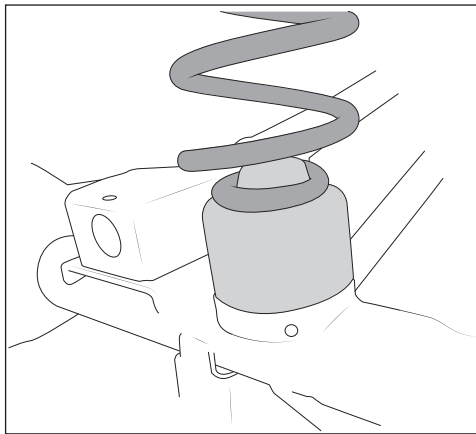

Figure 23
3. Install coil spacers onto spring pad on axle. Make sure spring pad is clean of debris so spacer sits level. Lower axle until spring can be inserted between upper mount and spring spacer, then install spring. Be careful not to stress brake lines (fig. 23).